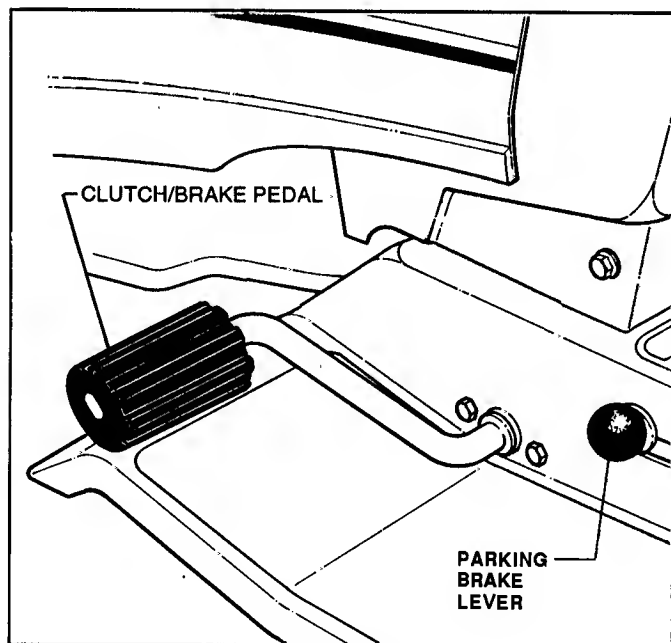

FIGURE 3
**WHEEL DRIVE: STOP FORWARD MOTION** of mower by pushing the CLUTCH/BRAKE PEDAL all the way down. See Figure 3.